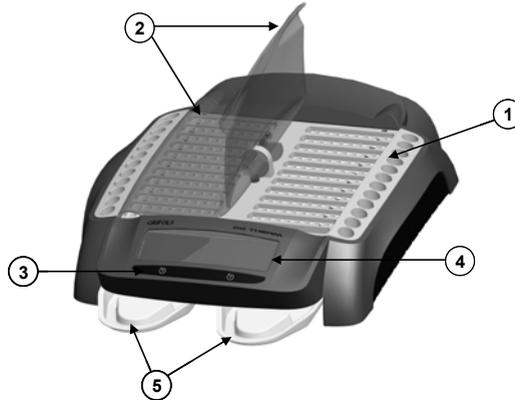
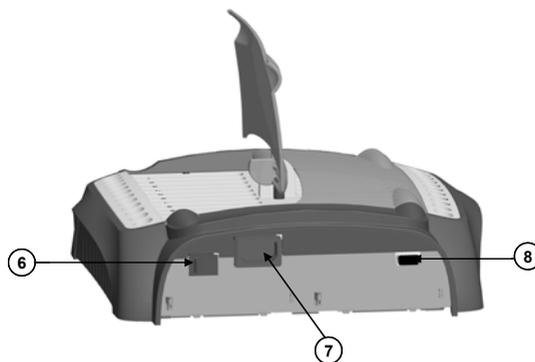

Figure 1 : General view of the *DG Therm* incubator
Figure 2 : Rear view of the *DG Therm* incubator
(3) Biological risk label
Located on the flap of *DG Therm* Trays (Ref. (5), Figure 1) it indicates and warns of the biohazard caused by possible remaining substances on the surfaces of the incubator and especially on the Trays.
Figure 1 and Figure 2 show a front and rear image of the *DG Therm* incubator.
The Thermostated block (Ref. (1), Figure 1) is the area of the incubator designed to place *DG Gel* cards and sample tubes for their thermostatisation at 37°C for the pre-established time.
The *DG Therm* incubator has two coverings that fold laterally (Ref. (2), Figure 1), which enable regulation of temperature and protect the *DG Gel* cards during incubation. Furthermore, their design facilitates the introduction and extraction
The *DG Therm* incubator has two Start/stop buttons (Ref. (3), Figure 1), **P₁** (Ref (1), Figure 4) and **P₂** (Ref. (2), Figure 4), that allow to start/stop both incubator timers independently.
- (1) **P₁**: Start/stop timer button **1**
- (2) **P₂**: Start/stop timer button **2**
The Display (Ref (4), Figure 1) informs the OPERATOR of the remaining time to the end of incubations (controlled by Timer **1** and **2**) and the temperature of the Thermostated block. It also informs of possible error situations.
DG Therm Trays (Ref. (5), Figure 1) are extractable and disposable trays located in the lower part of the incubator used to collect any remain of sample or any other substance from accidental spillage during the use of the equipment.
- Do not position the equipment so that it is difficult to operate the Main switch. (Ref. (6), Figure 2).
- Connect the mains cord to the incubator (Ref. (7), Figure 2) and the mains.
- Switch on the Main switch (Ref. (6), Figure 2).
- With the equipment switched off, keep the button **P₁** pressed down and switch on the Main switch (Ref. (6), Figure 2).